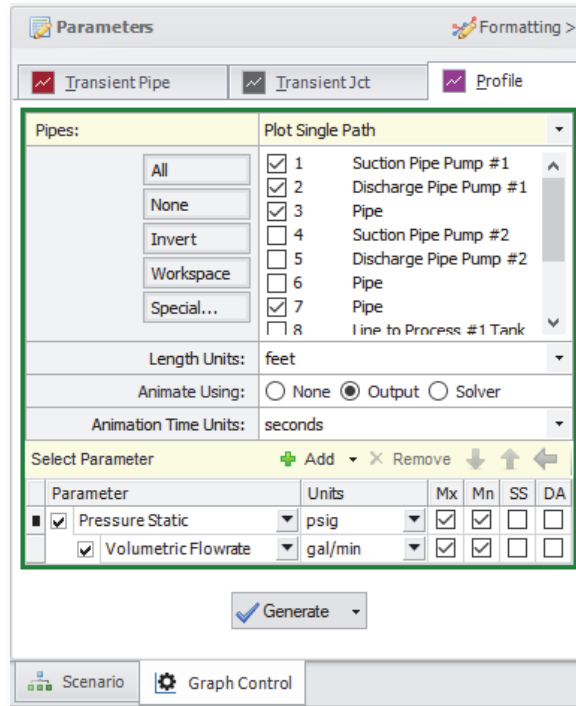

Figure 3.10 Selecting animation in Graph Results for Two Pump Start scenario
4. As was done in Step 8, specify that the volumetric flowrate will be plotted on the secondary Y-axis by double-clicking on the column in front of “Volumetric Flowrate” in the Parameters definition area. Note that “Volumetric Flowrate” becomes indented under “Pressure Static”, and that the black arrow next to “Volumetric Flowrate” turns to point towards the graph (Figure 3.10)
8. Specify for both the static pressure and volumetric flowrate graphs that you want to see the maximum and minimum values plotted along the length of the graphed path by placing a checkmark in the boxes in the Mx and Mn columns next to each parameter (See Figure 3.10)
Another animation option in Figure 3.10 is “Animate Using: Solver”. This option reruns the Transient Solver to generate the data for animation, and thus does not need to read it from file. Therefore, it does not require all of the data to be saved in Transient Control.